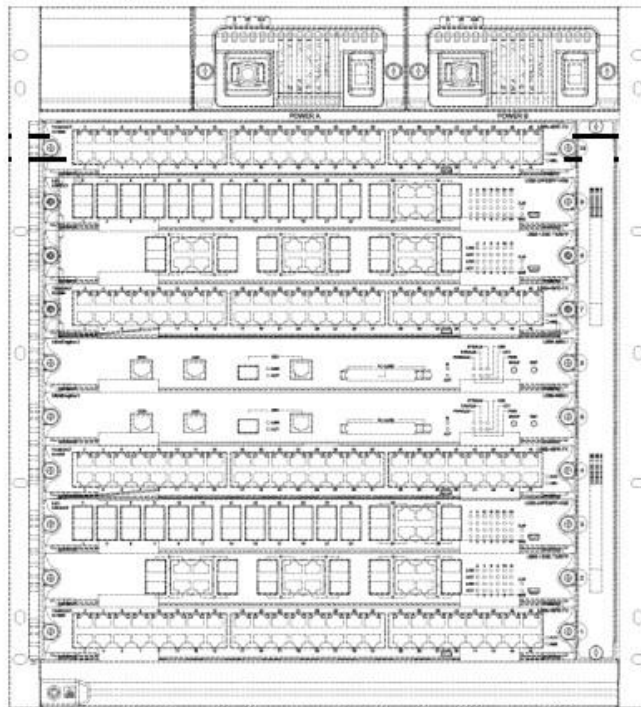

Figure 3-3 Components at the edge of the board
- (1) Plug out all optical fibers and cables from the template.
- (2) Loose the two bolts on the template.
- (3) Plug out the insertion board. See figure 3-3.